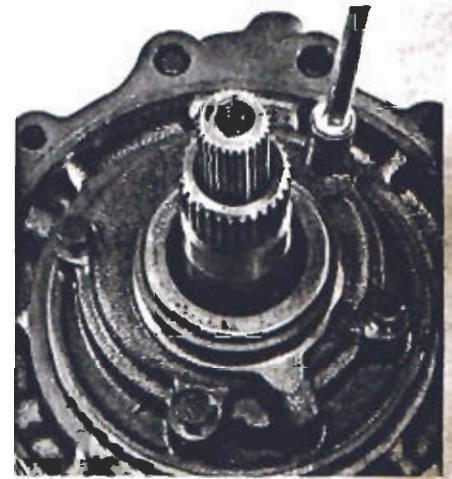

Figure 32 Assembling pump bolts
**STEP 47** Two pump housing bolt bosses are higher than the other two. Use longer bolts in the holes with higher bosses. Use two 5/16-18 x 1-7/8 and two 5/16-18 x 1-3/4 inch hex head bolts to attach pump to adapter, figure 32.